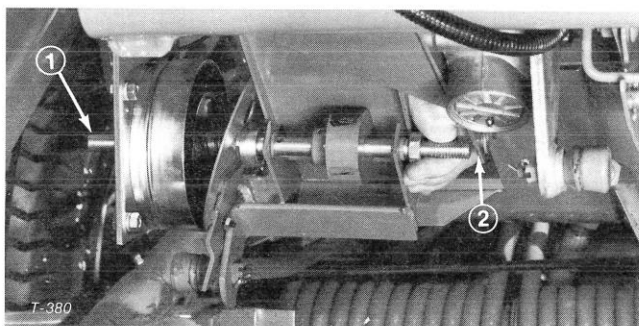

Figure 27
14. Slide traction pedal shaft through frame bracket until threaded end of shaft is inside left hand frame bracket (Fig. 27).